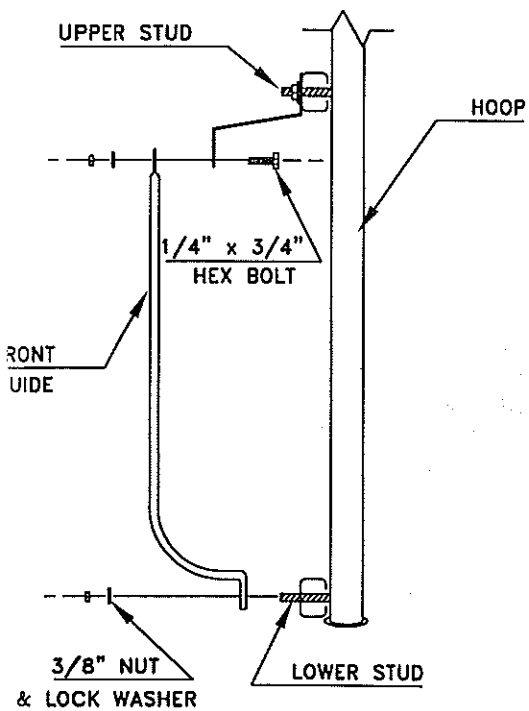
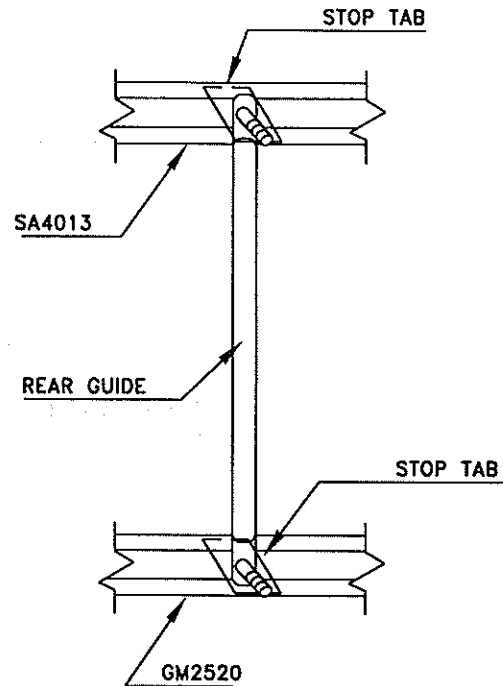
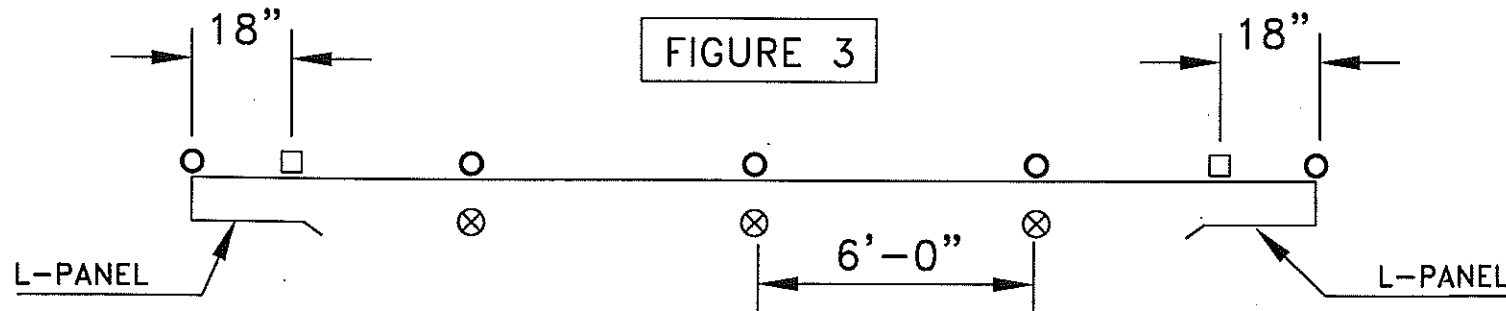

FIGURE 1
FIGURE 2
FIGURE 3
Install (8) corner braces (part GM2560). You will use stop tabs, 5/16" nuts, and a 5/16" lock washer to hold this part to the rail. (FIGURE 1) Corner braces will be installed on the upper and lower rails as shown in FIGURE 2.
First install the POLY-VENT gutter to the inside of your bottom rail, using (2) stop tabs. (see figure 1).
Install the front guides every 6'-0" to the outside of your GARDEN MART. These will be bolted to the poly-vent gutter (sheet metal) and the lower stud. (see figure 1.)
See figure 3 for location of the rear guide. These will be held in place with (2) stop tabs, (figure 2). Place the rear guide approximately 18" from the corner. See figure 3